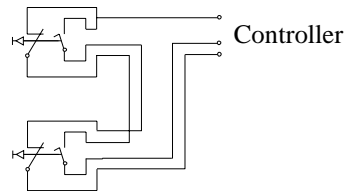

Figure 24 Connections of the switches.
- 07x** The signals are connected to 12-pole screw terminals, Phoenix MSTB 2.5/12-ST-5.08, in the controller (see Figure 24).